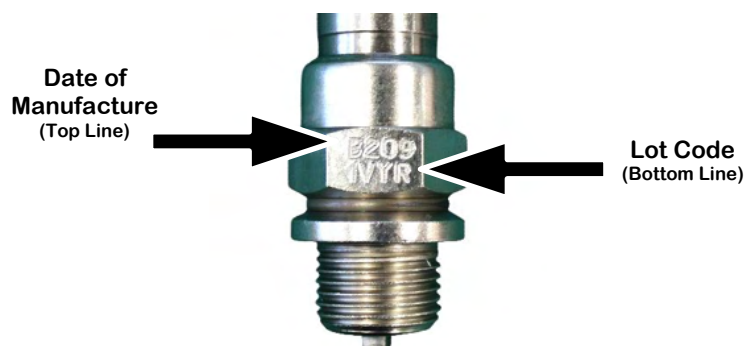

Figure 3
Visually inspect the spark plug for lot code per Figure 3. The lot code is stamped on the hex of the spark plug body as shown. Compare the stamped lot code to the affected part numbers and lot numbers listed in Table 1. Physical inspection of spark plugs is required. Remove from engine as required to confirm part number a lot code.
1. Determine if a spark plug is included in the affected lots (Table 1) using a visual inspection as shown in Figure 3 or by referencing an FAA 8130 from the latest spark plug installation as shown in Figure 5.